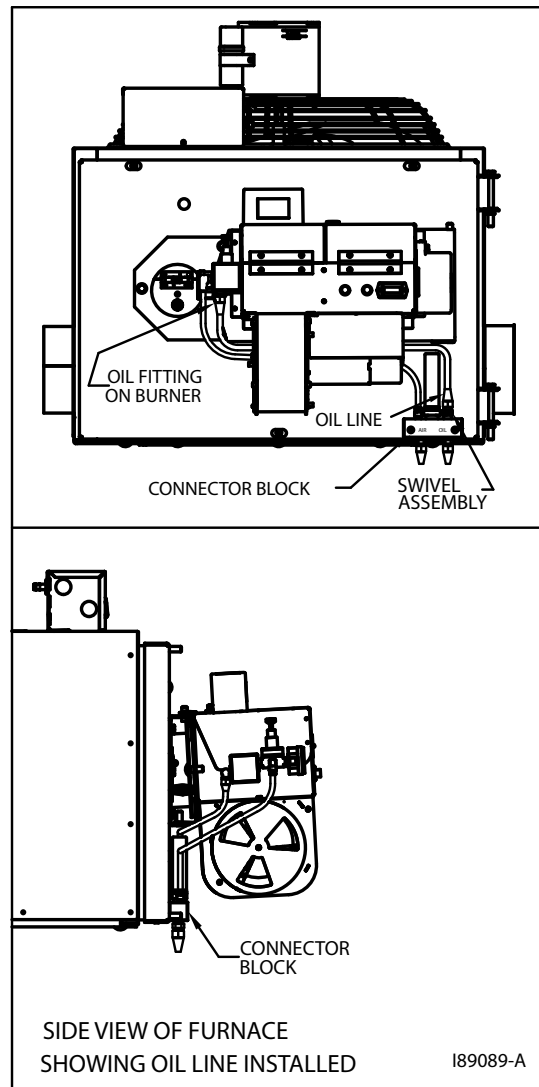

Figure 3F - Installation of Connector Block and Oil Line
1. Refer to Figure 3F.
2. Use the two (2) bolts to install the aluminum connector block onto the furnace door.
3. Slightly bend the tubing as shown in Figure 3F, if required, to "line up" the oil line with the oil line fitting on the burner. If necessary use a wrench to rotate the oil line fitting on the burner to line up the tubing.